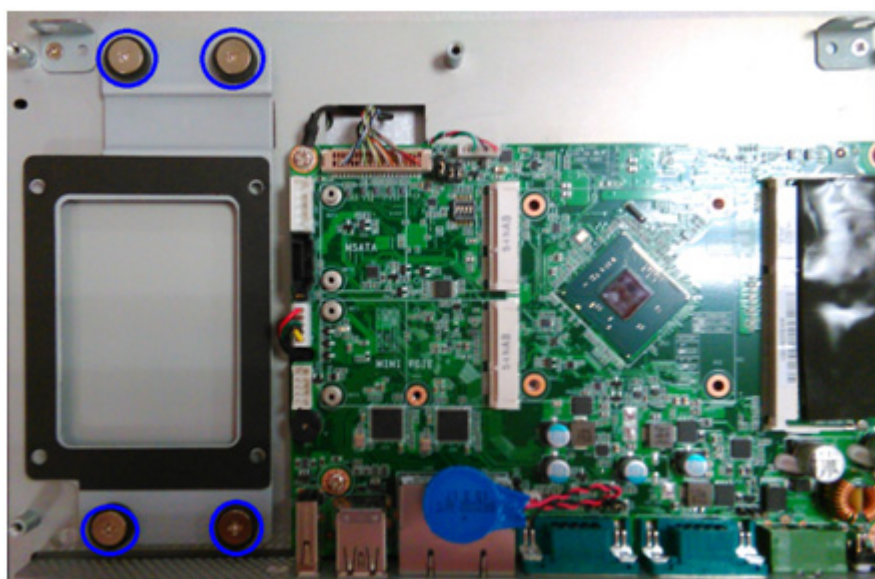

Figure 2.8 Retention screw on HDD bracket
1. Remove the preinstalled four retention screws on HDD bracket. (See Figure 2.8)